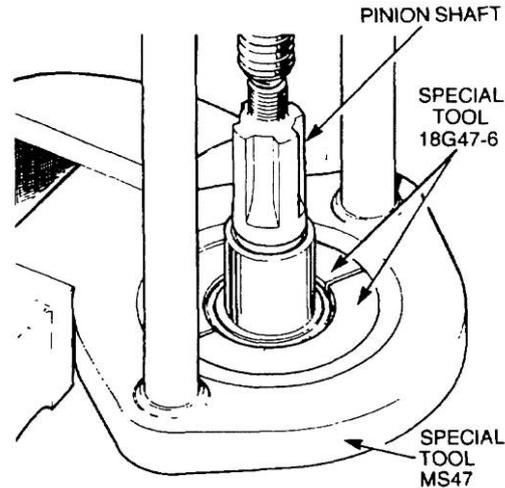

Figure 253 Removal of the Pinion Shaft Inner Bearing Cone
- g. Using special tools MS47 and 18G47-6, remove the pinion shaft inner bearing cone (Figure 253).